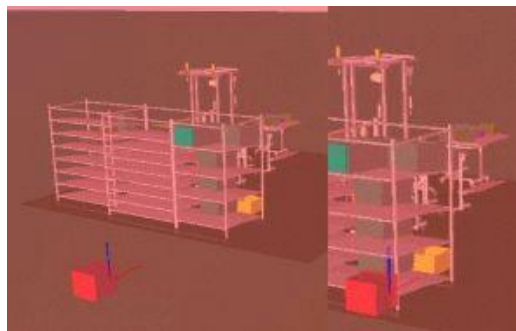

Figure 52: Example: Moving Point to Plane
- 3) Click **Apply** to place the graphic object. *Please refer to the Figure 52.*